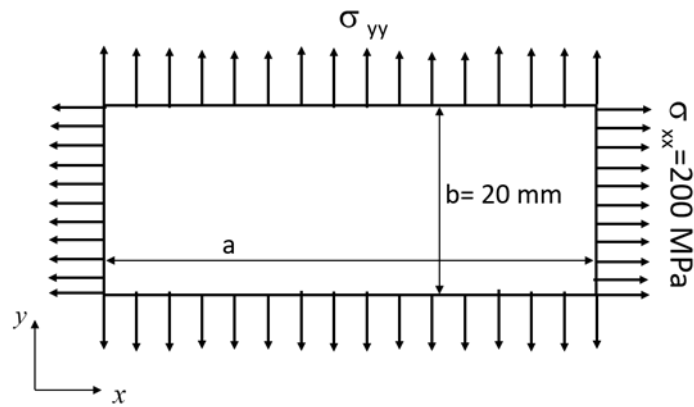

Figure 2
- (b). A small thin rectangular plate as shown in **Figure 2** is made of aluminium alloy ($E=75$ GPa and $\nu=0.33$). Stress components σ_{xx} and σ_{yy} are uniformly distributed as shown in the figure.